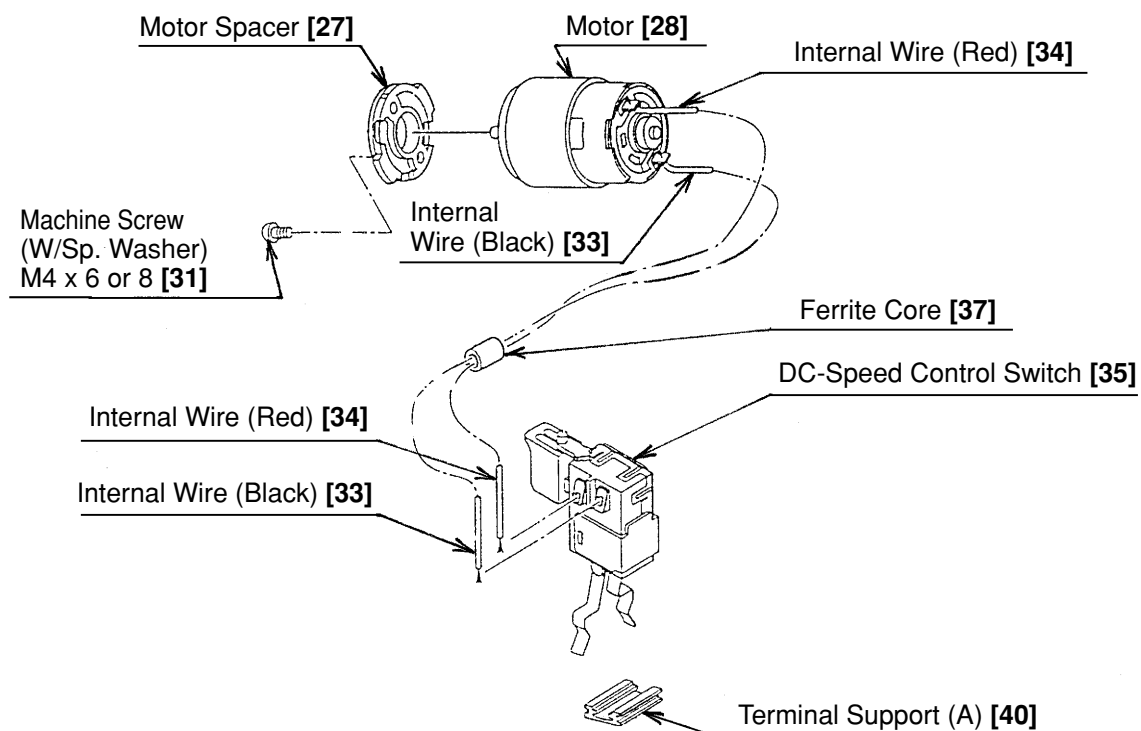

Fig. 5
(1) Reassembly of the power supply unit
- (a) Be sure to perform wiring connections as indicated in the wiring diagram. (See Fig. 5.)